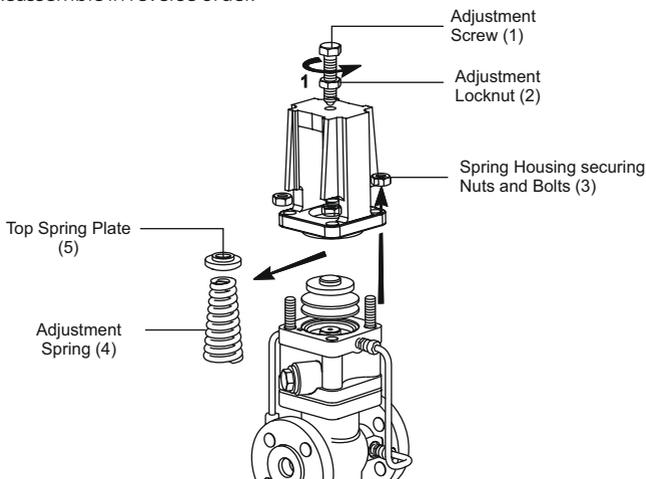

Figure 7 : Pressure adjustment spring
7.4. Procedure to renew or change the pressure adjustment spring: (Refer to Figure 7)